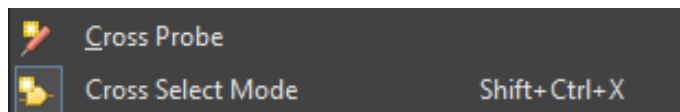

Figure 13. Blue highlighted icon indicating Cross Select mode is enabled
39. Enable Cross Select Mode from **Tools » Cross Select Mode**. If the icon has a blue outline around it, then Cross Select Mode is already enabled as shown in Figure 13.